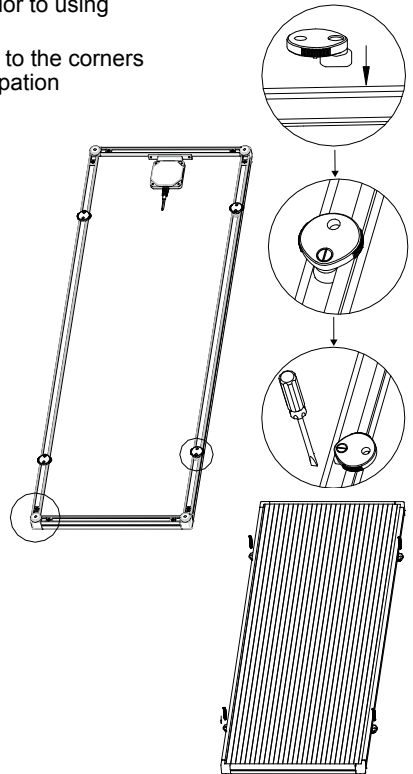

Fig. 2
2. Place the four plastic mounting brackets in the desired location and rotate each one 90°. Tighten the mounting brackets, using a flat blade screwdriver (see figure 2).